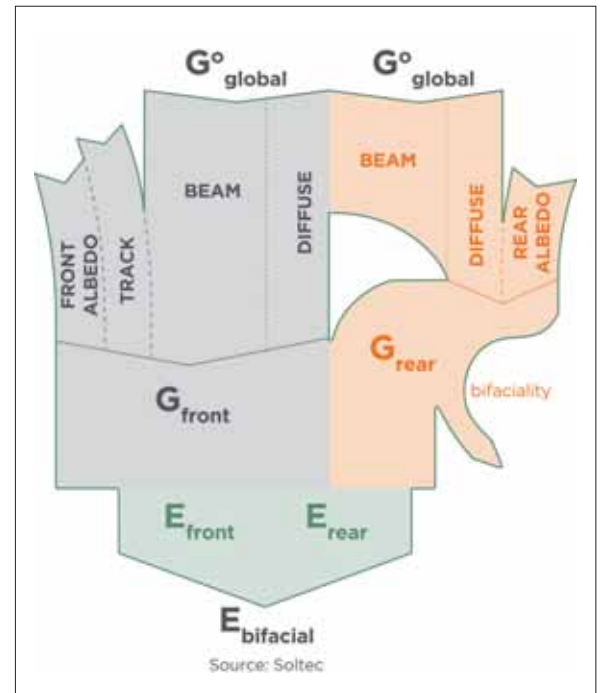

Figure 1. The composition of bifacial gain.
The Sankey diagram in Figure 1 exhibits the composition of bifacial gain. From it, relationships between bifacial ratio, bifacial gain and the summation of bifacial module energy performance (E) can be deduced.